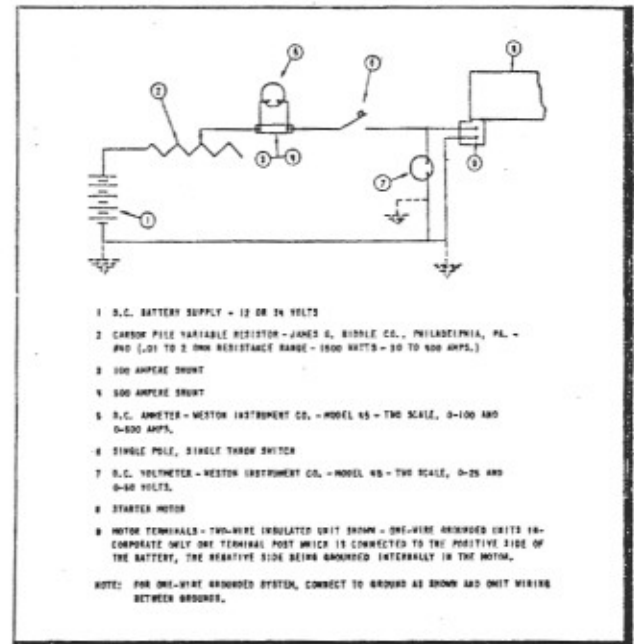
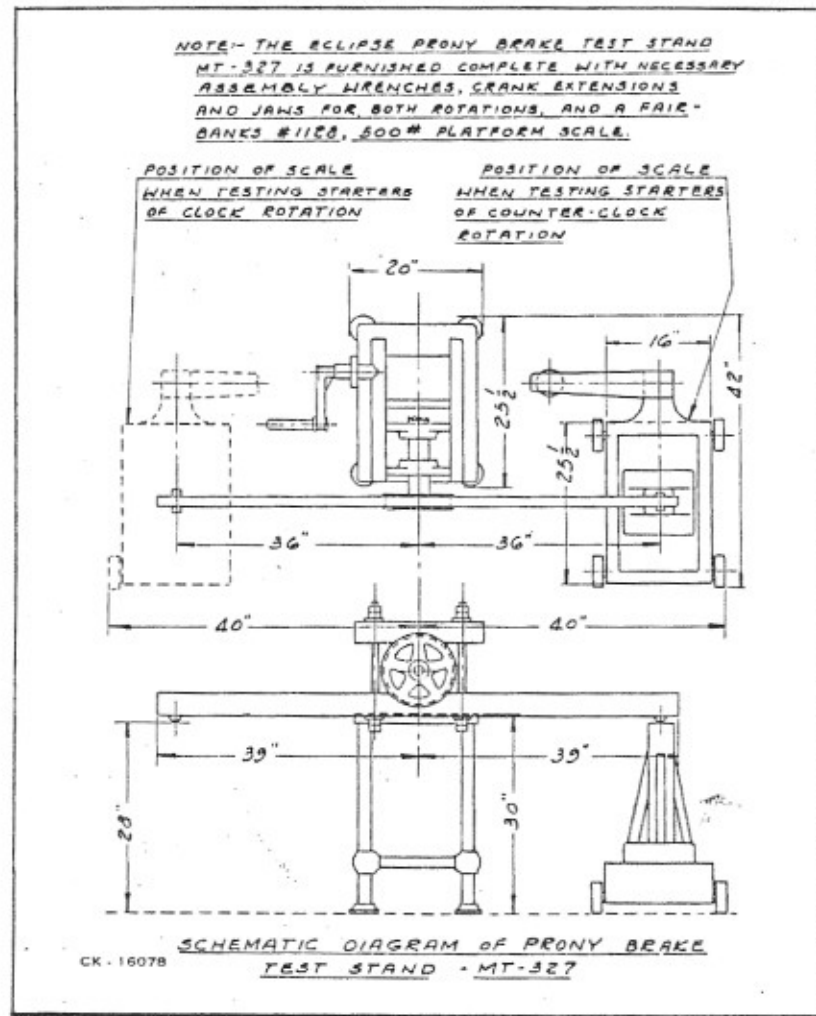

Figure 2—Schematic Electrical Test Diagram
Figure 3—Prony Brake Test Stand MT-327
c. ELECTRICAL CONNECTIONS.—Refer to test diagram (figure 2). Connect the d-c power supply (1), which may be either a battery or a motor generator, through the carbon stack variable resistor (2), a Weston model 45 ammeter (0-100) scale using a 100-ampere shunt, and a single pole-single throw switch (6) from which a lead is connected to one of the starter terminals. Connect a Weston model 45 voltmeter across the motor terminals as shown.
(1) Loosen carbon stack to get the highest resistance possible, then close the motor circuit. Check the ammeter reading, then close the motor circuit. Check the motor "free-run" characteristics. Adjust the variable resistor to give the desired characteristics for the particular unit as given in table 3.
In order to check or adjust starter clutches and to test the units for proper operation after reassembly, a Prony brake test stand (MT-327), figure 3, with a platform scale is required. With baffle plate removed, mount starter on test stand and adjust mounting bracket of stand so that the distance between starter jaw and test stand jaw is $\frac{3}{32}$ inch when starter jaw is retracted fully. Removal of baffle plate necessitates manual engagement of starter jaw with test stand jaw. When adjusting starter clutch, as outlined below, care should be taken to gradually attain the required setting WITHOUT OVERHEATING.
Connect starter motor as shown (figure 2) under paragraph 12.b., this section, and reassemble unit on Prony brake test stand (figure 3) and proceed as follows: